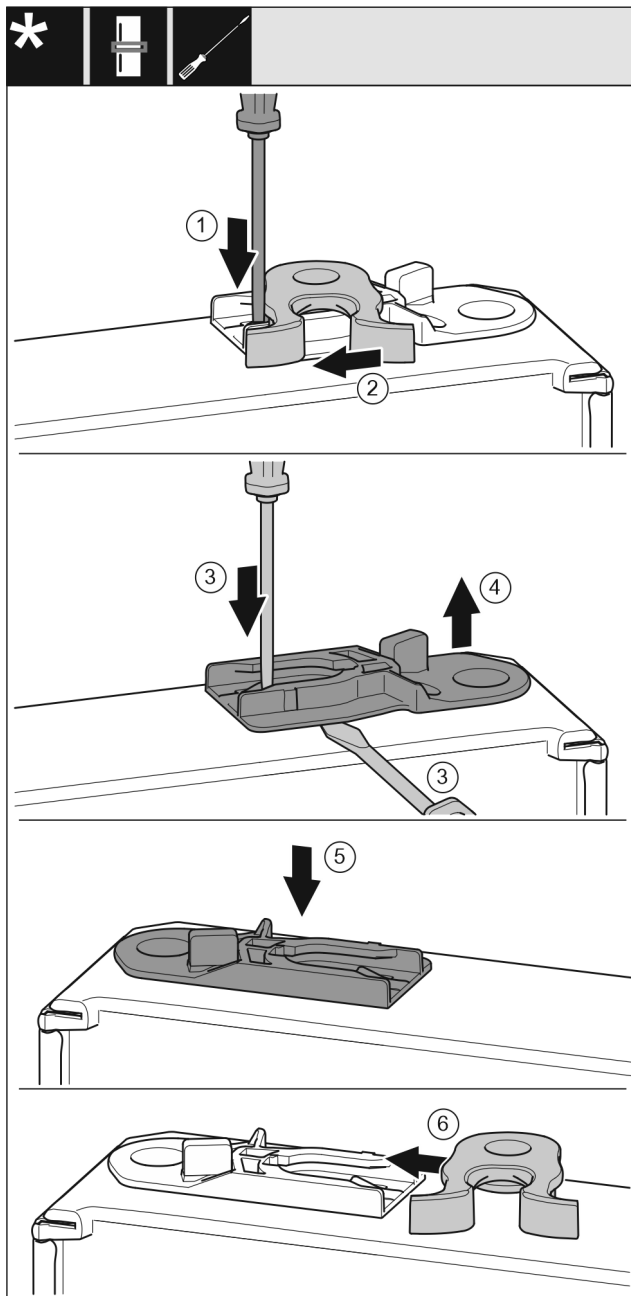

Fig. 18
- ▶ Push the lug downward with a slotted screwdriver. Fig. 18 (1)
- ▶ Pull the door latch out of the guide. Fig. 18 (2)
- ▶ Pull out the guide bush: Press the lug with a slotted screwdriver and, at the same time, insert the slotted screwdriver under the guide bush. Fig. 18 (3, 4)
- ▶ Slide the guide bush included in the scope of supply to the other side of the housing. Fig. 18 (5)
- ▶ Push the door latch into the guide. Fig. 18 (6)